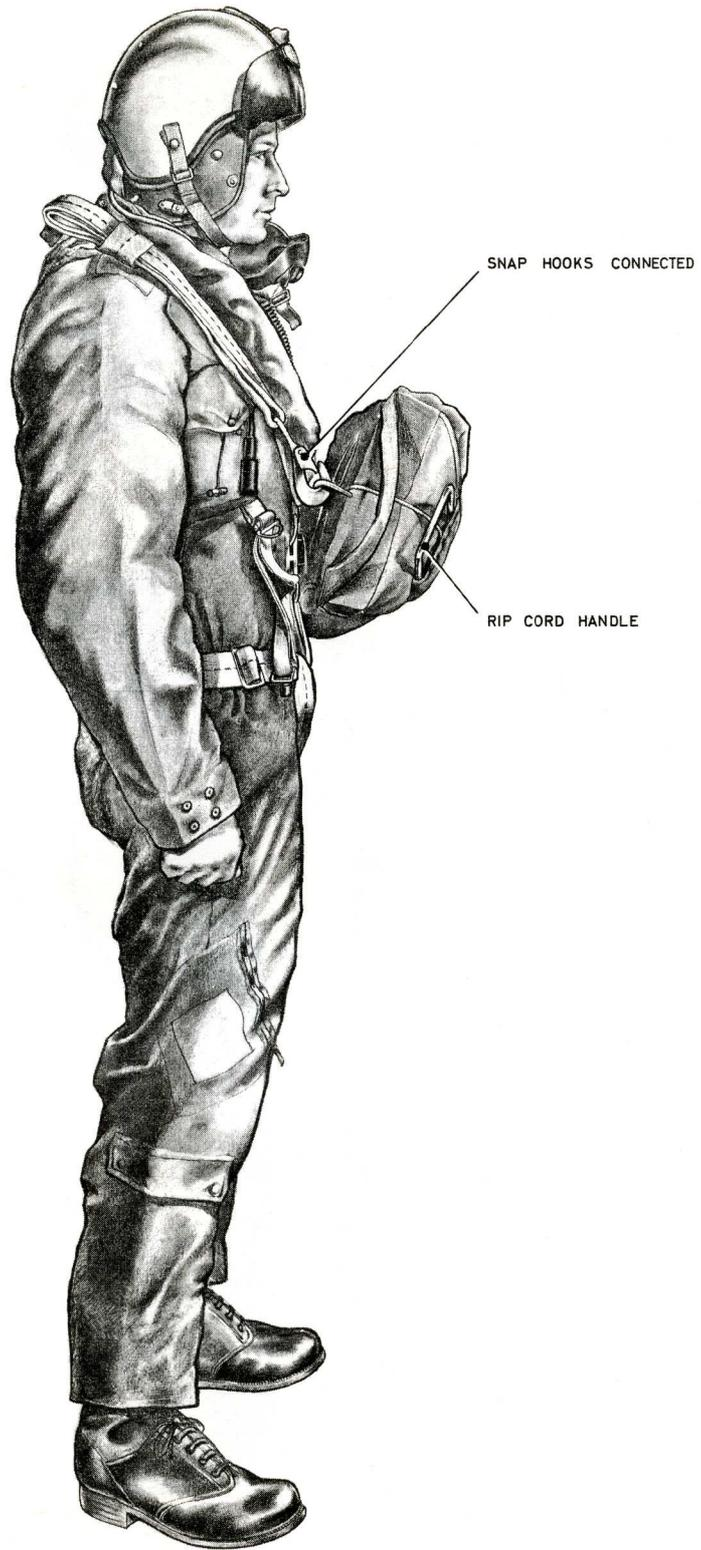

Fig. 2. Fitting assembly 'A': stage 2
6. The equipment is fitted in two stages, stage 1 (*fig. 1*) is the fitting of the parachute harness and stage 2 (*fig. 2*) is the attachment of the parachute pack. The crew member is shown wearing a Type G flying helmet and a Mk. 1A protective helmet with visor; when using the boom microphone (*shown inset in fig. 1*) goggles are used instead of the helmets and oxygen mask.